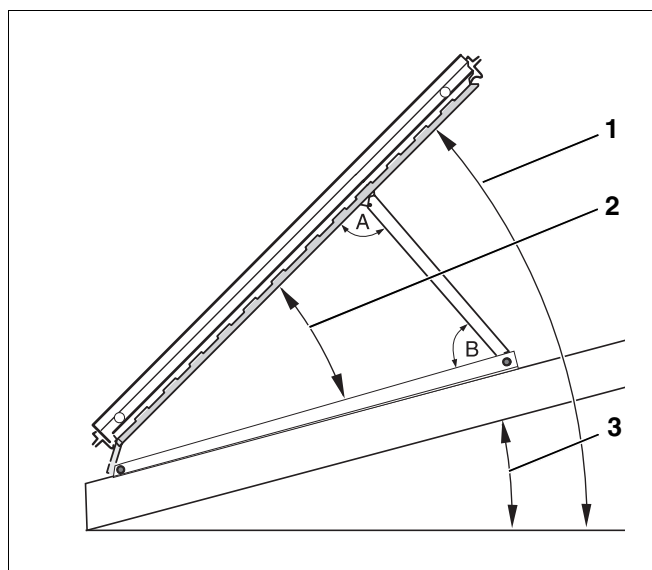

Fig. 5 Angle of inclination, angle of incidence, roof inclination
Depending on the area of application of the solar heating system, determine the angle of incidence towards the horizontal plane (Fig. 5).
- Please ensure that the angle between the brace and the collector back (Fig. 5, **angle A**) and that between the brace and the tee-section (Fig. 5, **angle B**) is not greater than 90°.